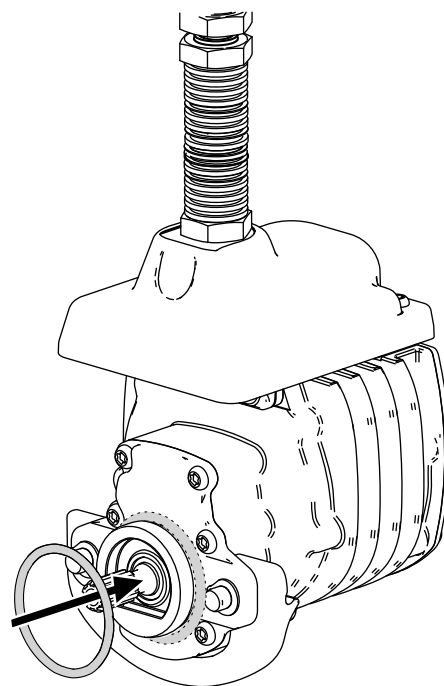

Figure 11
3. Install an O-ring to each reel motor as shown in Figure 11.